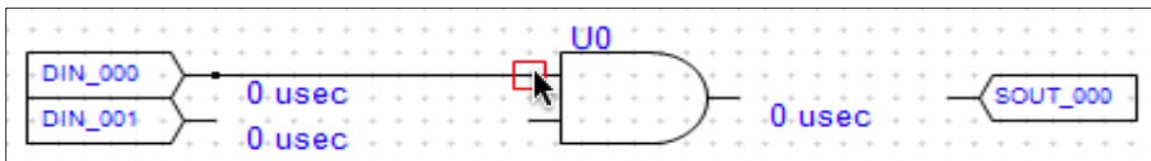

Figure 69 - Locating Next Connection Point
- 2) While holding the left mouse button, move the cursor to the next pin to connect. A large red rectangle is shown if the cursor is on a valid connection point (Figure 69 - Locating Next Connection Point).